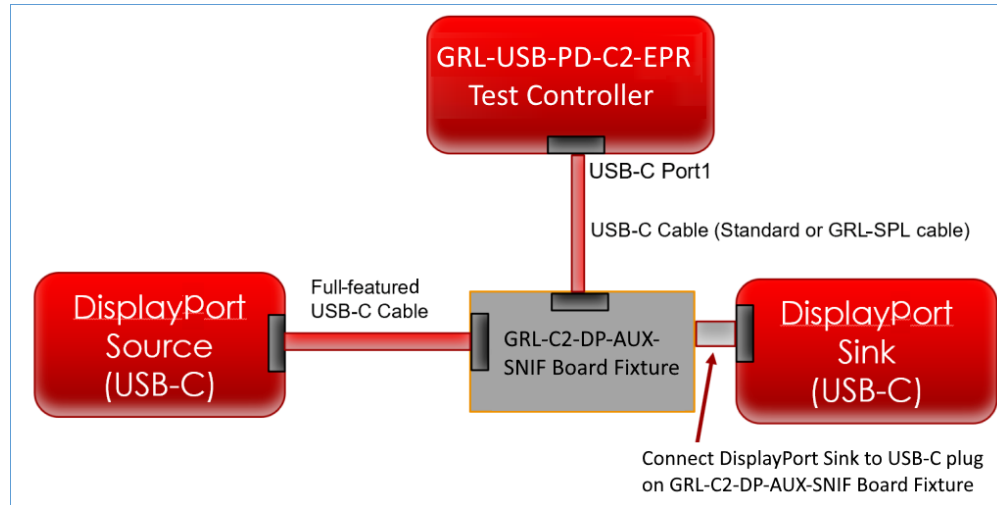
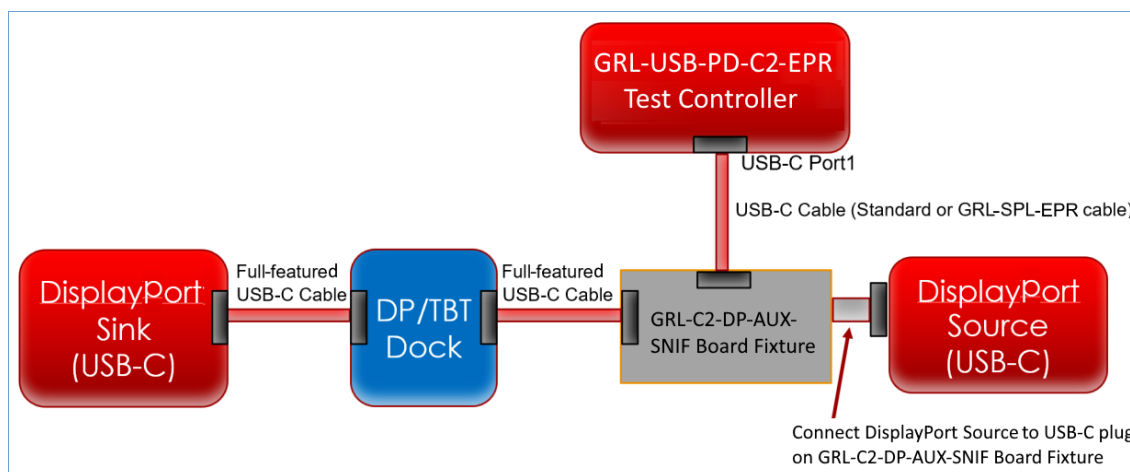

FIGURE 3.5: DISPLAYPORT SOURCE & SINK TEST SETUP CONNECTION DIAGRAM
FIGURE 3.10: DISPLAYPORT SOURCE & SINK WITH DISPLAYPORT/THUNDERBOLT DOCK TEST SETUP CONNECTION DIAGRAM
As shown in Figure 3.5 above, connect the equipment as follows:
As shown in Figure 3.10 above, connect the equipment as follows:
- Once the equipment for the test setups as described in Figure 3.5 and Figure 3.10 (whichever applies) have been connected, and connection has been established between the DisplayPort Source and Sink devices, the USB Power Delivery protocol communication followed by the DP-AUX transactions can be seen initially on the *Results* screen of the GRL-USB-PD-C2-EPR Application, as shown in below examples.